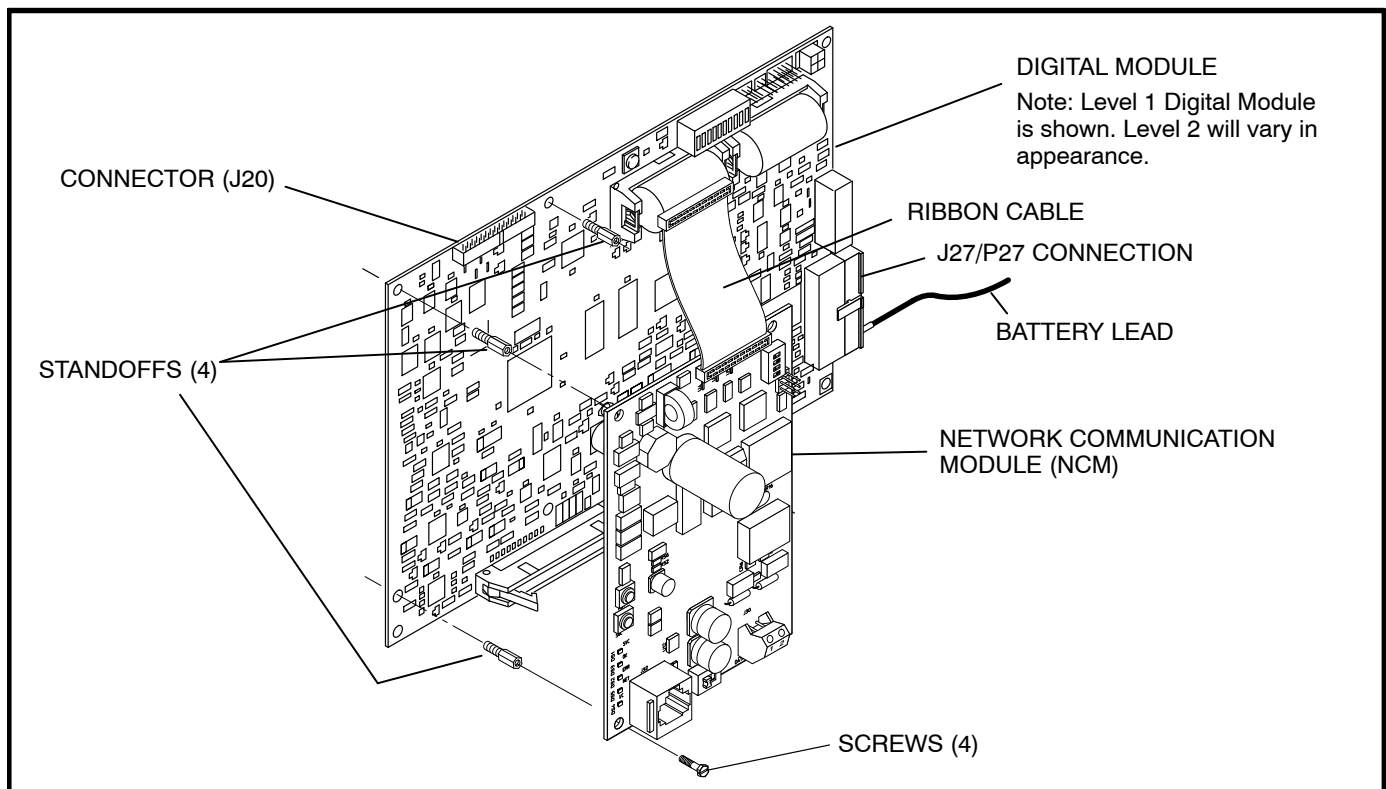

FIGURE 11-1. NETWORK COMMUNICATION MODULE INSTALLATION (CURRENT PRODUCTION)
7. Attach the four standoffs to the digital module (see Figure 11-1 or 11-2).